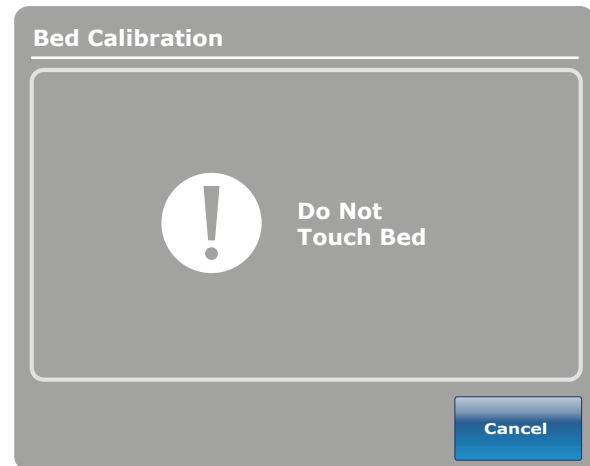

Figure 8: Do Not Touch Bed Screen
6. Press the  button when done. The “Do Not Touch Bed” screen will appear as shown in Figure 8.